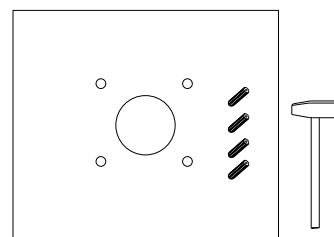

Figure 2-2
2. Fix rubber plugs into holes.(Figure 2-2)